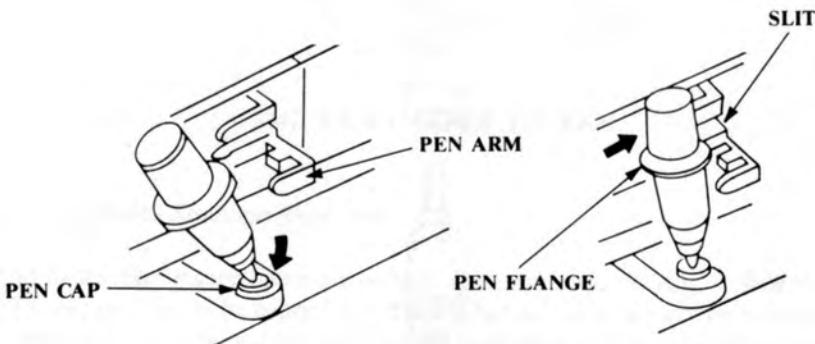

FIGURE 4-3. PEN INSTALLATION
2. Place the pen point in the plotter pen cap as shown in Figure 4-3. Press the pen down and slide the pen flange into the pen stall slit. Note that the lower body of the pen is held by the pen arm.